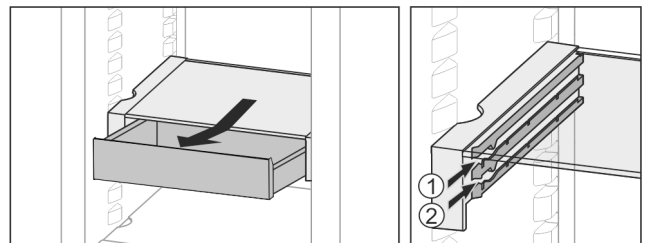

Fig. 31
- Slide back at the height you want Fig. 31 (1) or Fig. 31 (2).